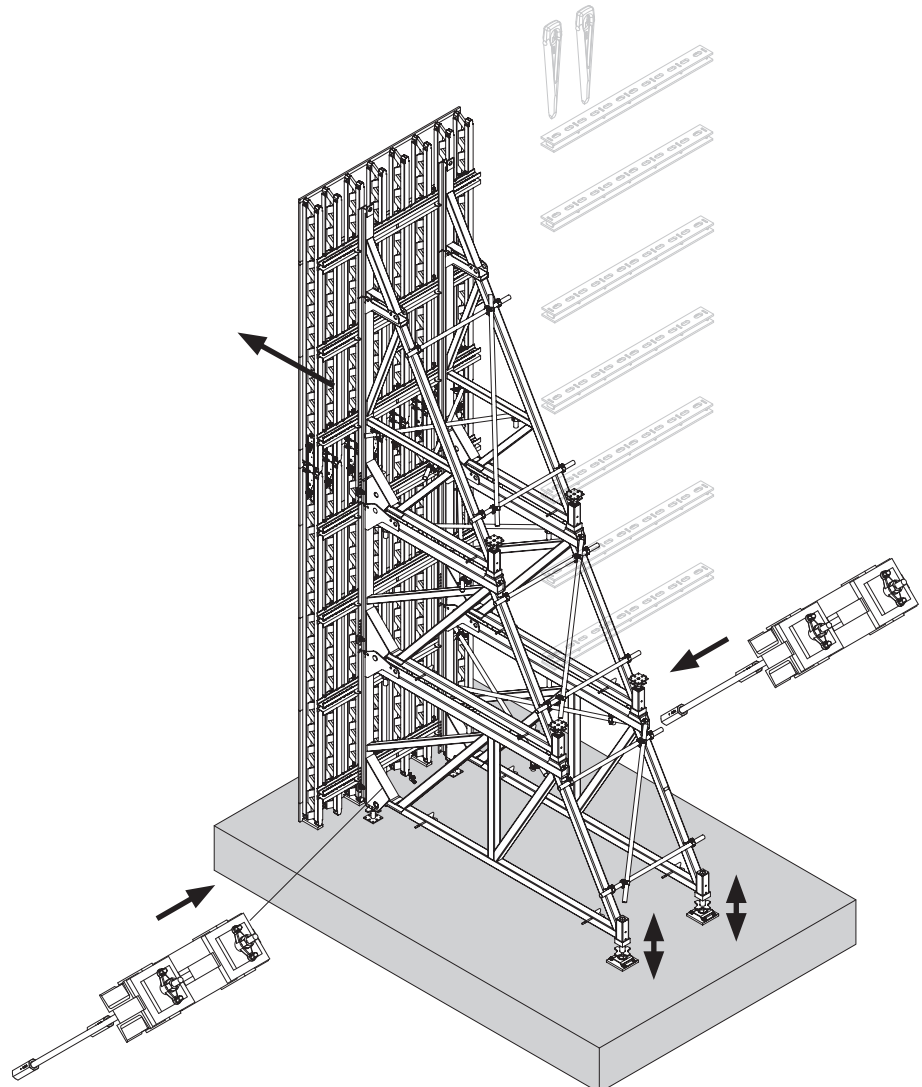

Fig. E1.02
7. Fix Brace Frames to the ground using re-usable anchor parts on the anchor components, see A2. (Fig. E1.02)